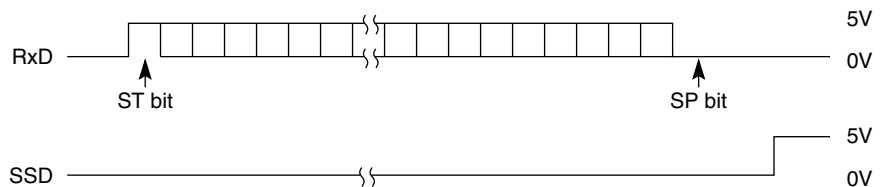

Figure B-7
- Yes Is the RxD of Q3 as specified in Figure B-7?
② In receiving by serial interface, printing data is omitted or printing operation is not performed.
• Are RxD and SSD of Q3 as specified in Figure B-7?